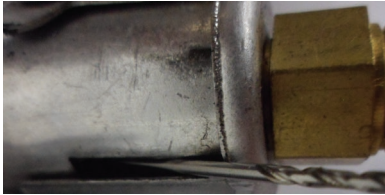

Figure 3
1. Ensure the air shutter is set to the specification. See **Figure 3** and **Tables 1 and 2 on page 8**.